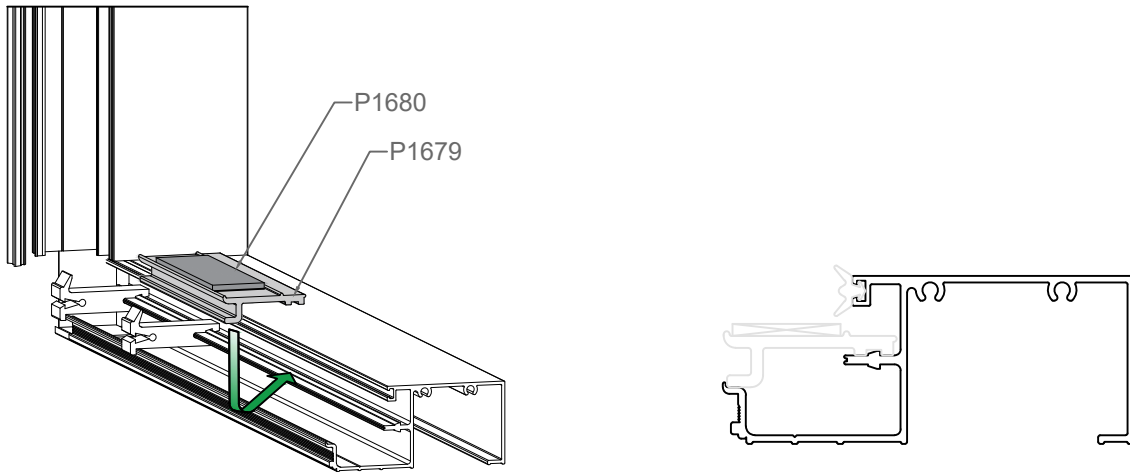

FIG. 1
- A. Install P1679 Setting chair and P1680 Setting block. Fig. 1.